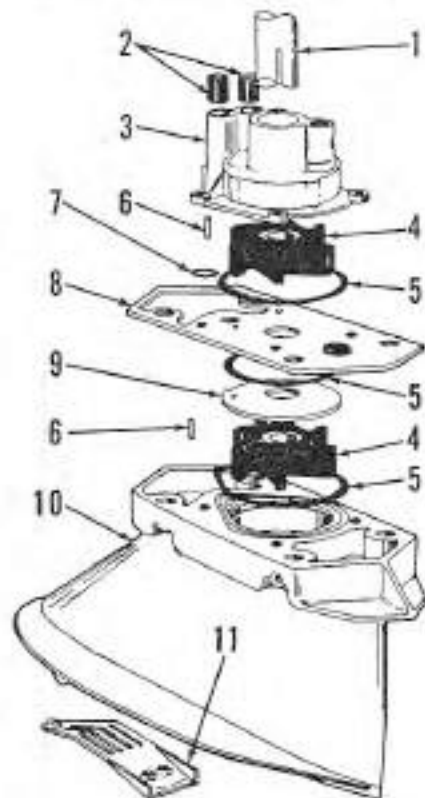

Fig. Mc56 — Exploded view of pump housing and associated parts used on Fleet Scott models. On Fishing Scott, pumps are located in lower unit gearcase.
The cooling system pump and boiler pump on Fleet Scott models are housed in a separate pump housing located on the lower unit just above the gearcase housing. See Fig. Mc56. The pumps are mounted on the lower unit driveshaft and impeller housing is offset in relation to the driveshaft as shown in Fig. Mc55. At slow engine speeds, the tips of impeller blades bend to follow contour of housing as shown by solid lines. Water is drawn into impeller (IN) as area between impeller blades increases. As area decreases due to shape of housing, water is forced into outlet (OUT) passage of pump. At high engine speeds, the flexible blades remain curved as shown by broken lines (HS) and the pump operates by centrifugal action. Flow is thus maintained at an approximately constant level at most engine speeds.
The cooling system inlet (11—Fig. Mc56) is located above and aft of the propeller. When cooling system problems are encountered, first check the water inlet for plugging or partial stoppage, then if not corrected, remove lower unit gearcase housing (or pump housing) and check the condition of the water pump, water passages, gaskets and sealing surfaces.